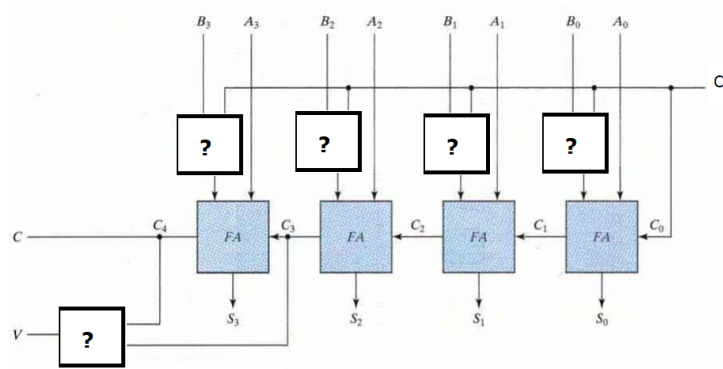

Figure 4: The 4-bit Adder Subtractor Circuit with Overflow Detector
4. The circuit must be design as given in Figure 4. Which operator should be used in the marked boxes in the figure?